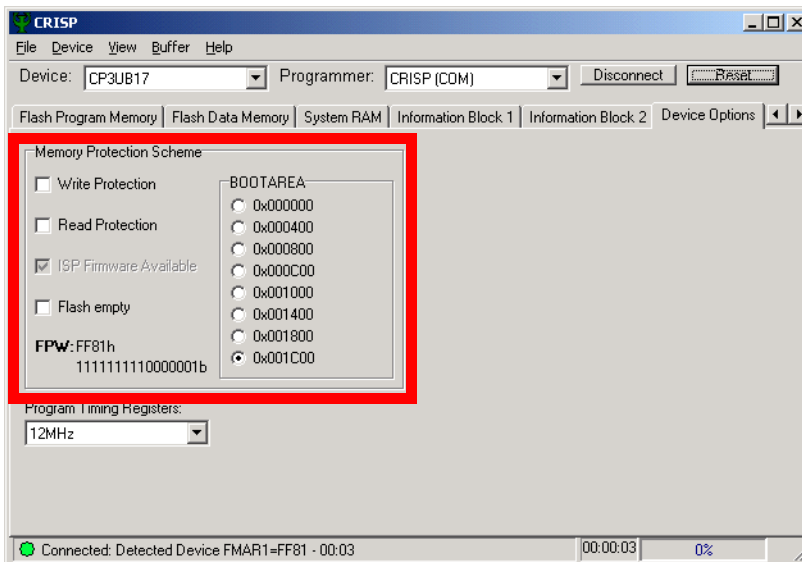

Figure 6-5. Memory Protection Scheme Settings
1. **View the Memory Protection Scheme.** In the CRISP main window, click on the Device Options tab. On the left, the Memory Protection Scheme settings are displayed, as highlighted in red in Figure 6-5.